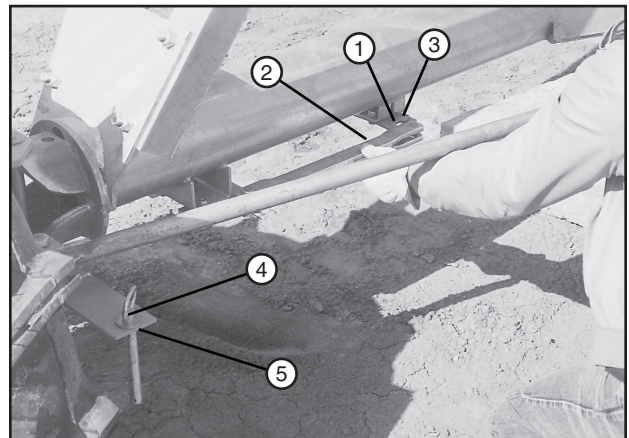

Figure 53-2 1. Carrier Spring 2. Tow Link 3. Tow Link Carrier 4. Torque Pin 5. Steering Arm
19. Lift each carrier spring and release the tow link bar from the tow link carrier. Remove torque pin from each gearbox steering arm. See figure 53-2.